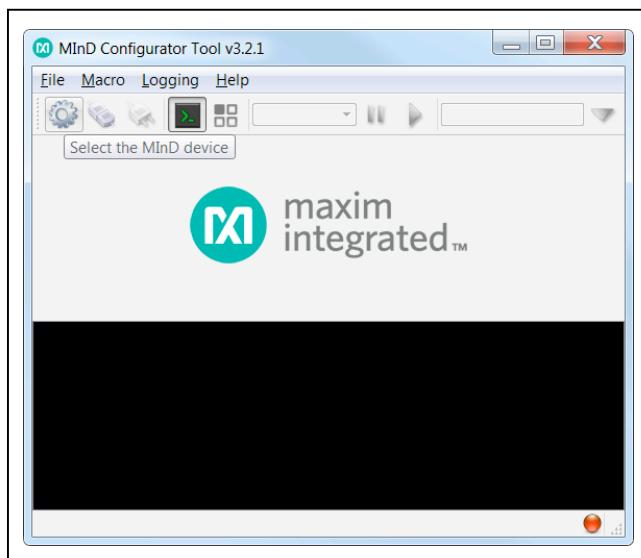

Figure 12. Select the MInD Device Button
- 1) Click on the **Select the MInD device** button on the application toolbar (Figure 12).